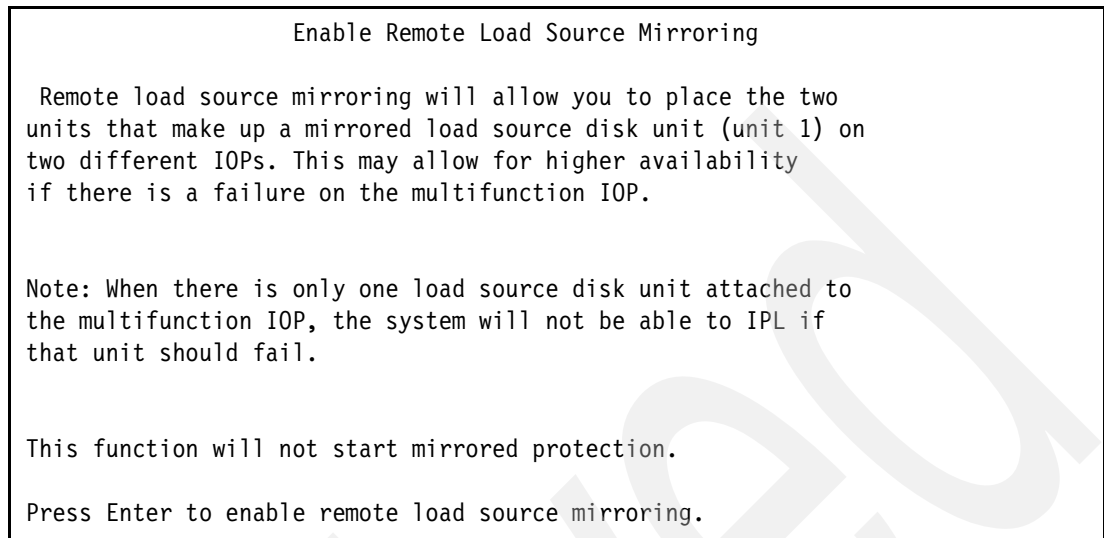

Figure 5-55 Enable Remote Load Source Mirroring panel
5. In the Enable Remote Load Source Mirroring confirmation panel (Figure 5-55), press Enter to confirm that you want to enable remote load source mirroring.